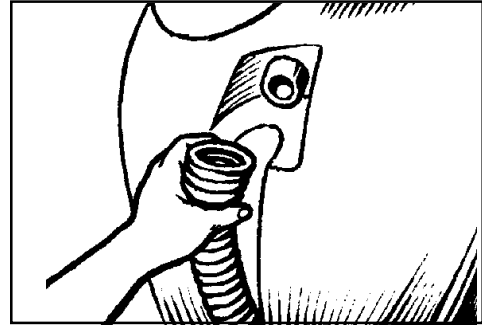

Figure 47
5. Remove the end of the squeegee hose that attaches to the recovery tank (see figure 47).